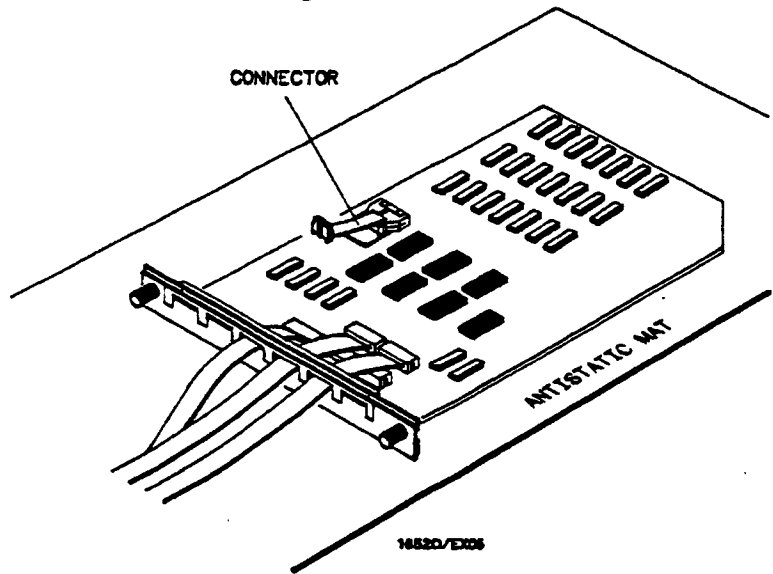

Figure 2-8. Cable Position
- f. Lay cable flat and pointing out to the rear of card. See figure 2-8.